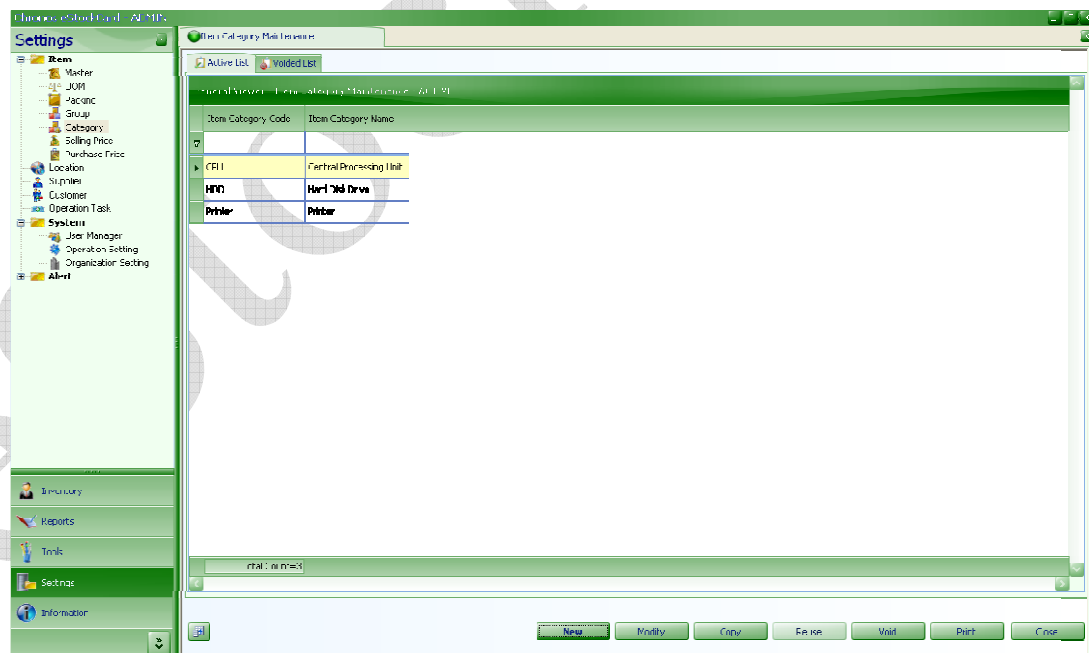

Fig. 23
Step 3 Click “Save”. (Fig. 23)